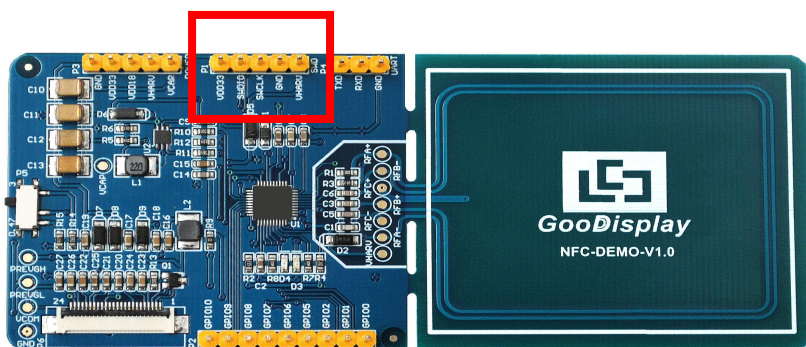

Figure 3 : SWD Interface
1) As shown in Figure 3, the development board has reserved a four-wire SWD interface, which can be connected to the corresponding interface of the emulator through DuPont wire, and then the emulator can be connected to the computer.